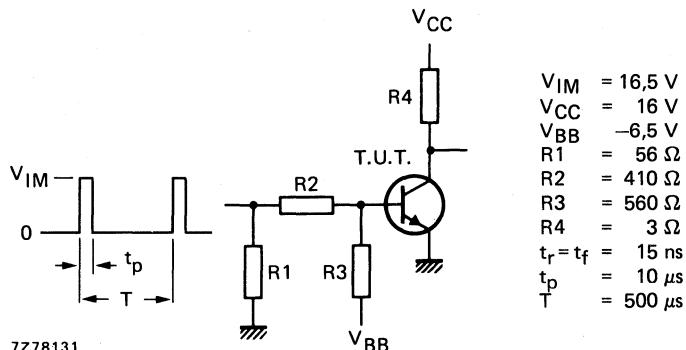

Fig. 4 Switching times test circuit.
**CHARACTERISTICS** $T_j = 25^\circ\text{C}$  unless otherwise specified.**D.C. current gain\*** $I_C = 1 \text{ A}; V_{CE} = 4 \text{ V}$  $h_{FE}$  typ. 1500 $I_C = 5 \text{ A}; V_{CE} = 4 \text{ V}$  $h_{FE}$  > 1000 $I_C = 10 \text{ A}; V_{CE} = 4 \text{ V}$  $h_{FE}$  typ. 1750**Base-emitter voltage\*** $I_C = 5 \text{ A}; V_{CE} = 4 \text{ V}$  $V_{BE}$  < 2,5 V\*\***Collector-emitter saturation voltage\*** $I_C = 5 \text{ A}; I_B = 20 \text{ mA}$  $V_{CEsat}$  < 2 V**Collector capacitance at  $f = 1 \text{ MHz}$**  $I_E = I_e = 0; V_{CB} = 10 \text{ V}$  $C_c$  typ. 150 pF**Cut-off frequency** $I_C = 5 \text{ A}; V_{CE} = 4 \text{ V}$  $f_{hfe}$  typ. 70 kHz**Diode, forward voltage** $I_F = 5 \text{ A}$  $V_F$  typ. 1,2 V $I_F = 12 \text{ A}$  $V_F$  typ. 2 V**Switching times (see also Fig. 4)** $I_{Con} = 5 \text{ A}; I_{Bon} = -I_{Boff} = 20 \text{ mA}; V_{CC} = 16 \text{ V}$  $t_{on}$  typ. 1  $\mu\text{s}$